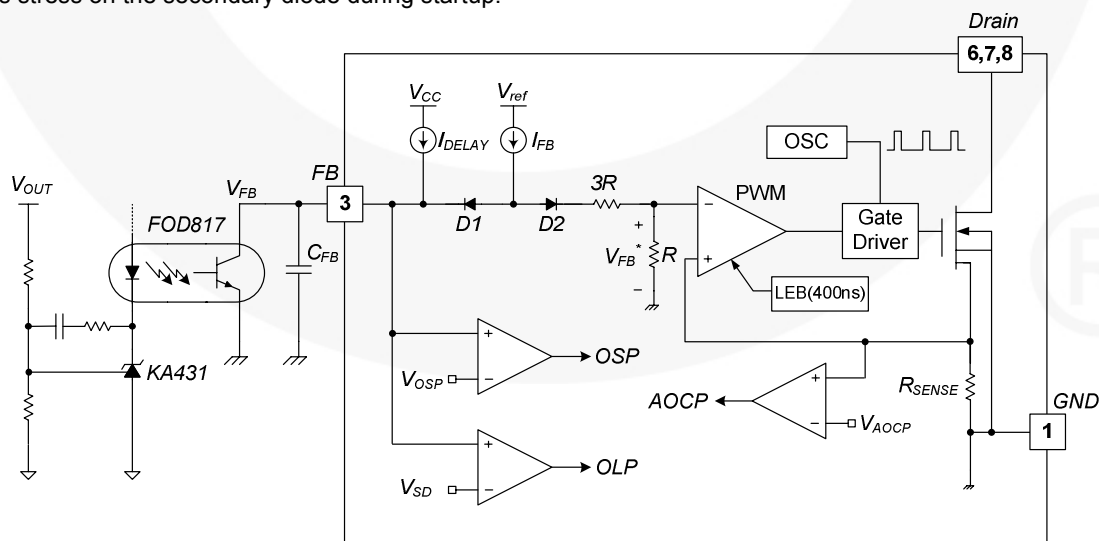

Figure 18. Pulse Width Modulation Circuit
3. Feedback Control: This device employs current-mode control, as shown in Figure 18. An opto-coupler (such as the FOD817) and shunt regulator (such as the KA431) are typically used to implement the feedback network. Comparing the feedback voltage with the voltage across the R_{SENSE} resistor makes it possible to control the switching duty cycle. When the reference pin voltage of the shunt regulator exceeds the internal reference voltage of 2.5V, the opto-coupler LED current increases, pulling down the feedback voltage and reducing drain current. This typically occurs when the input voltage is increased or the output load is decreased.
3.1 Pulse-by-Pulse Current Limit: Because current-mode control is employed, the peak current through the SenseFET is limited by the inverting input of PWM comparator (V_{FB}^*), as shown in Figure 18. Assuming that the $150\mu A$ current source flows only through the internal resistor ($3R + R = 16k\Omega$), the cathode voltage of diode D2 is about 2.4V. Since D1 is blocked when the feedback voltage (V_{FB}) exceeds 2.4V, the maximum voltage of the cathode of D2 is clamped at this voltage. Therefore, the peak value of the current through the SenseFET is limited.